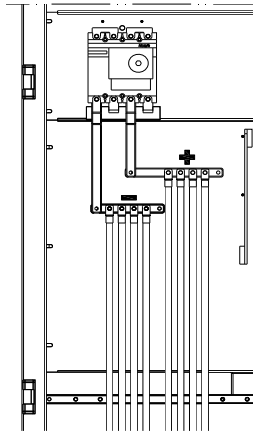

Figure 3-7 DC input wiring
(2) Confirm that the input photovoltaic modules are of the same specifications and types before connection of DC input;
(3) Compress the positive and negative cable terminals of the DC source and then connect them to the positive and negative buses of the inverter respectively, as shown in Figure 3-7